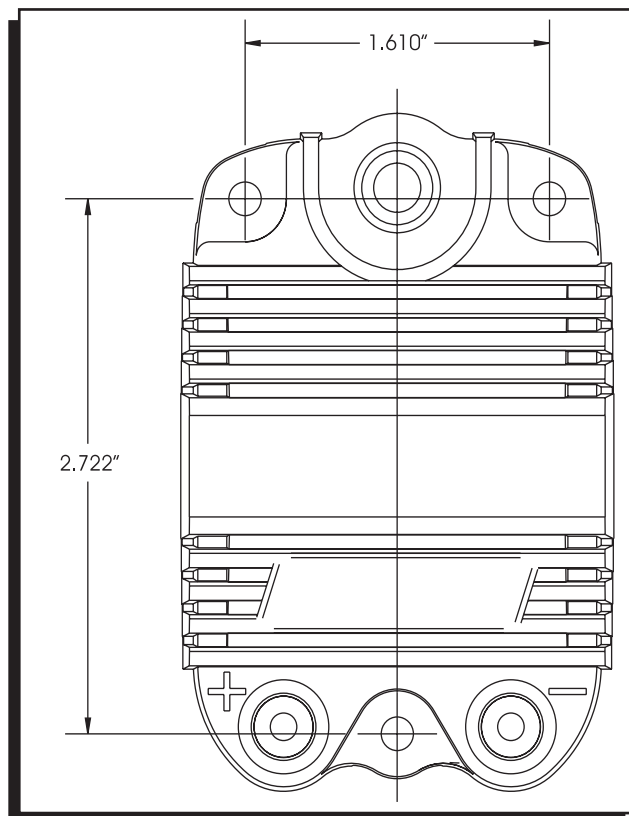

Figure 1 Coil Mounting Template.
3. Use the Coil as a template and mark the mounting holes. Figure 1 also provides a template to assist in the mounting.